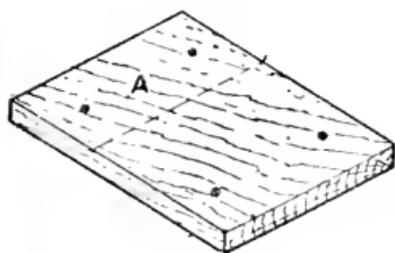
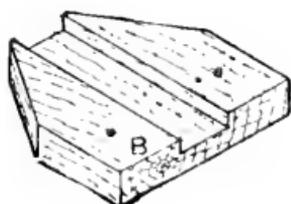

Fig. 16
Fig. 17
Figs. 16 and 17.—Details of Home-made Plough
Home-made ploughs are serviceable tools, and can be constructed from simple material, such as a chisel, some pieces of wood, and a few screws. Knock off the handle from an ordinary $\frac{1}{2}$ -in. chisel having a "shoulder" near the haft, and replace it with a cork; cut to the shape of Fig. 16 a piece of thin wood (say $\frac{1}{4}$ in. thick) $2\frac{1}{2}$ in. in breadth, its length depending on the length of the chisel. Place the chisel on the wood so that the cutting end overhangs about $1\frac{1}{8}$ in.; at the other end mark where the shoulder of the chisel touches the wood, and cut across just above the mark so that the shoulder falls over the edge and allows the chisel to lie flat on the wood. Cut another piece of wood thicker than the last (of full $\frac{1}{2}$ -in. stuff) to the shape of Fig. 17.
B. Put the second piece of wood, groove downwards, on the first one so that the square end B of Fig. 17 rests upon the portion marked A of Fig. 16, allowing the pointed end to overhang. Screw the two pieces together from underneath, taking care
to countersink the screw-heads. In the tunnel thus formed insert the chisel with its *bevelled edge upwards*, as it must always be when in use, and see that it has a rather loose fit. If it is all right, the cutting edge will project about $\frac{3}{8}$ in. at one end, and the shoulder will just fall over the edge at the other end. In a piece of wood c (Fig. 18), measuring, say, 2 in. by $\frac{1}{2}$ in. by $\frac{1}{2}$ in., make a groove of the same width as before, but a trifle deeper than the groove is at B (Fig. 17). Screw this last piece to the foundation A (Fig. 18) so that the groove en-
of course, intended to be pushed to and fro upon the right cheek of the press; but the tool, as it stands, will not cut straight through so as to leave a nice flat surface, but will rise until it has made a "hog's-back." To prevent this, provide a bar of wood H (Figs. 18 and 19), which should be fixed at one end to the top G of the plough, and should rest at the other end on a guide-rail J fixed to the top face of the left cheek of the press. The bar should be rigid, say of $\frac{1}{2}$ -in. stuff about 8 in. long, and be fixed to the plough with two screws. The top surface of the rail must be level with the top face of B (see Fig. 18); the easiest way to effect this will be to make the rail J of the same stuff as Fig. 17, and let it stand at each end on feet L (Fig. 18), made of the same stuff as Fig. 16. The bar will then lie quite horizontal across the press. Notice, too, that the rail J should be set back 1 in. or more from the inner edge of the left cheek, otherwise it will interfere with the "backing" operations.